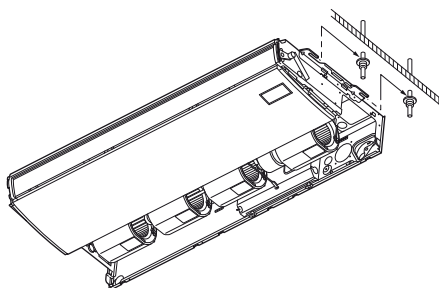

Fig. 3-14
b) Lift the indoor unit, and place it on the washers through the notches, in order to fix it in place. (Fig. 3-14)